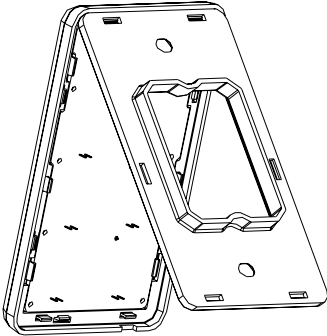

FIG. 5 Attaching the faceplate to the mounting frame
6. Attach the faceplate to the mounting frame first at the top and swing it to the bottom. See FIG. 5
6. Attach the faceplate to the mounting frame first at the top and swing it to the bottom. See FIG. 5.